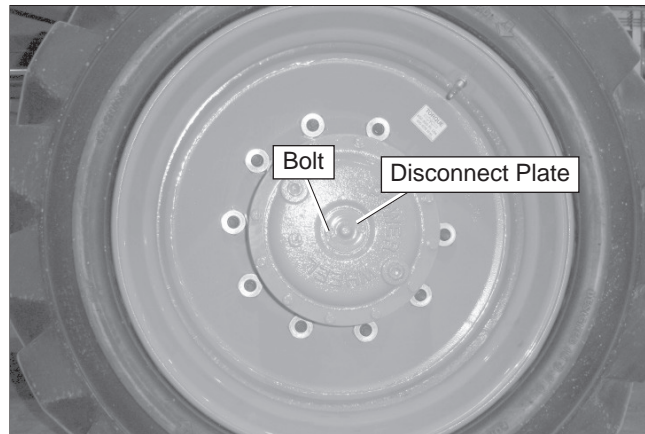

Figure 9.4 – Drive Wheel
6. At each drive wheel, remove the two bolts from the disconnect plate (refer to Figure 9.4). Turn the plate over so the nipple points inward. Reinstall the two bolts.
8. At each drive wheel, remove the two bolts and return the plate to its original position as shown in Figure 9.4.